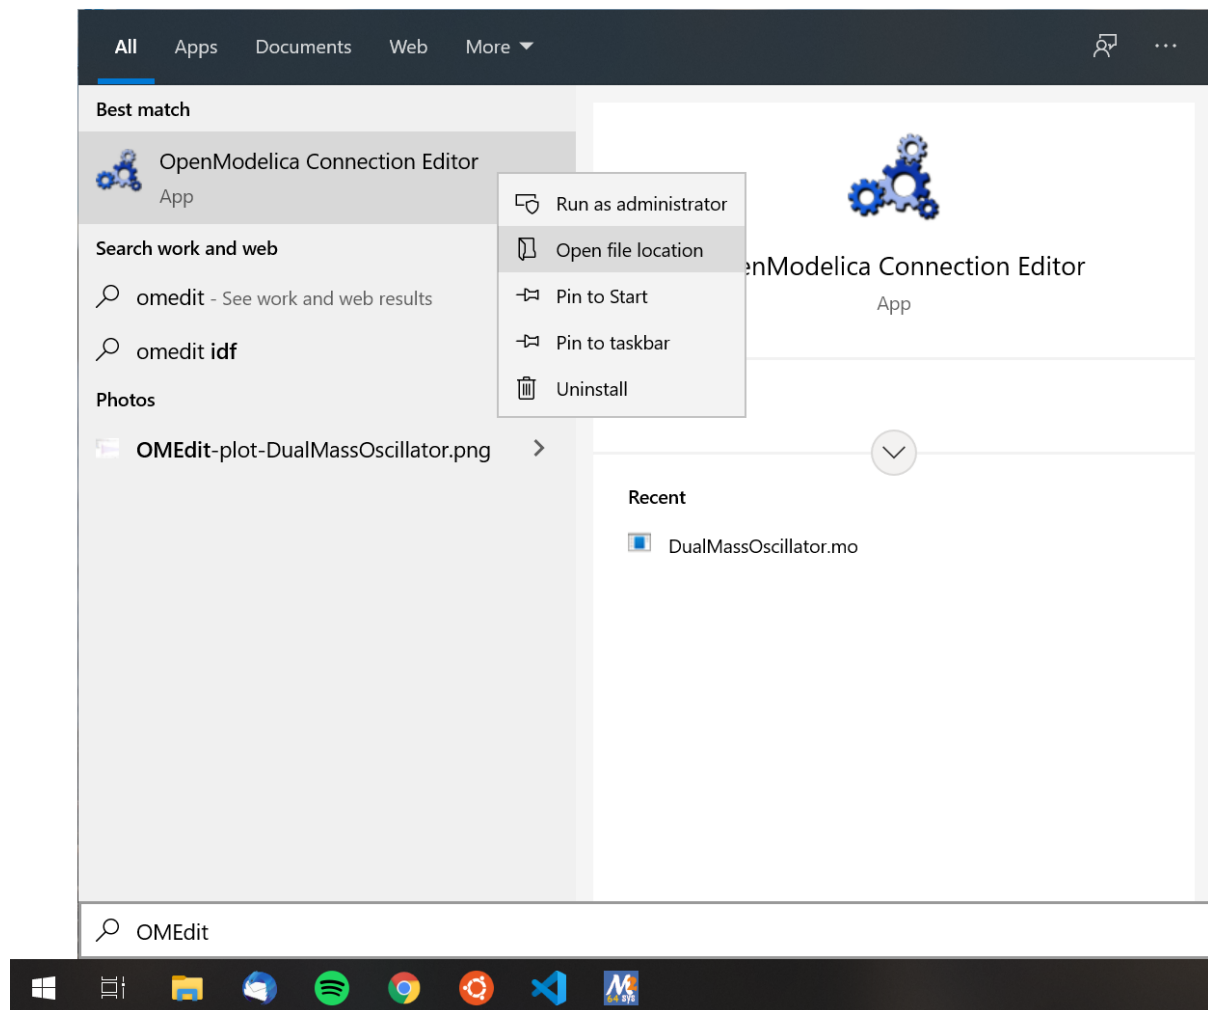

Figure 3.24: Open file location of OpenModelica Connection Editor
1. Press **Windows-Key** and type *OpenModelica Connection Editor* and right-click on the app and *Open file location*, Figure 3.24.